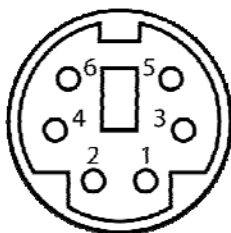

Figure 4-17: PS/2 Pinouts
- CN Pinouts:** See Figure 4-17 and Table 4-17